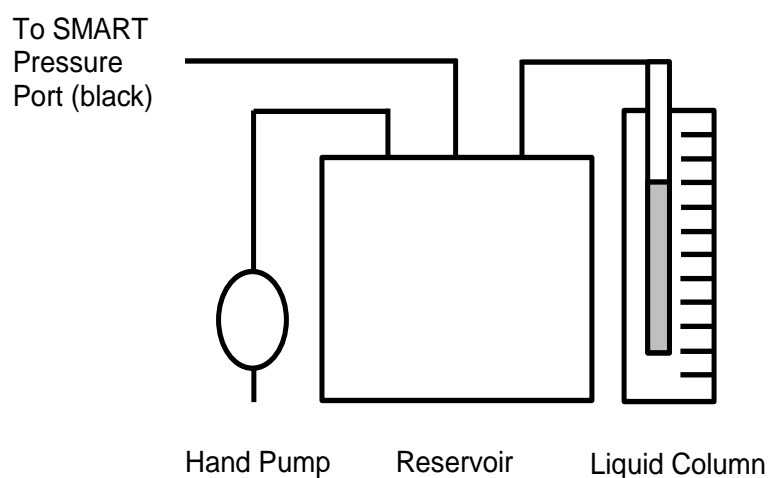

Figure 1: Equipment set up required for the pressure transducer check
In addition to the SMART system, a liquid column covering the range 0-50cmH2O, a hand pump and a reservoir are required. The calibration check of the pressure transducer is carried out using the set up shown in Figure 1 and by following the steps shown below:
- With the pressure transducer exposed to zero pressure (i.e., disconnected from the test equipment described in Figure 1), measure the voltage between test point 5 (ground) and test point 4 using a sensitive DC voltmeter
- With the pressure transducer exposed to 50cmH2O pressure, using the test set up described in Figure 1, measure the voltage between test point 5 (ground) and test point 4 using a sensitive DC voltmeter